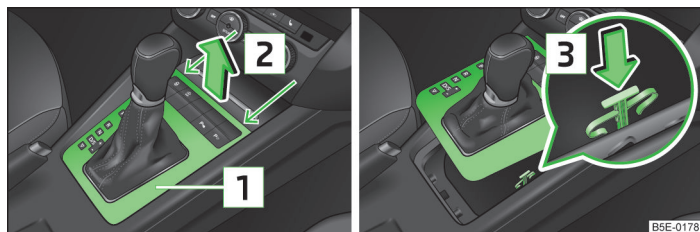

Fig. 204 Selector lever-emergency unlocking
- Grab hold of the cover **1** in the areas of the arrows and carefully raise it in the direction of the arrow **2** forwards and then backwards » Fig. 204.